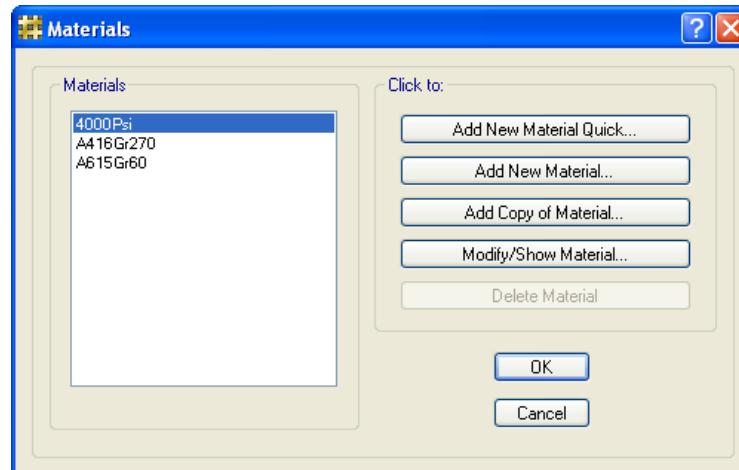

Figure 58 Materials form
- A. Click the **Define menu > Materials** command to access the Materials form shown in Figure 58.